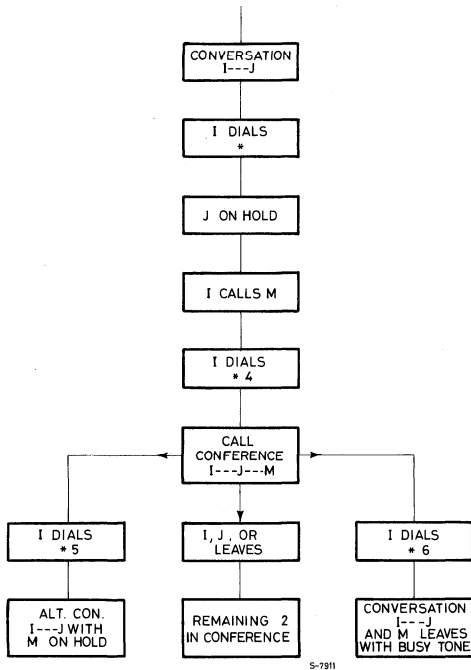

Figure 14. Conference Call
**Conferece Call.** (see Figure 14). A conference call is possible up to a maximum of either one external and 2 internal conversations, 3 internal conversations, or 2 external and 1 internal (where allowed).